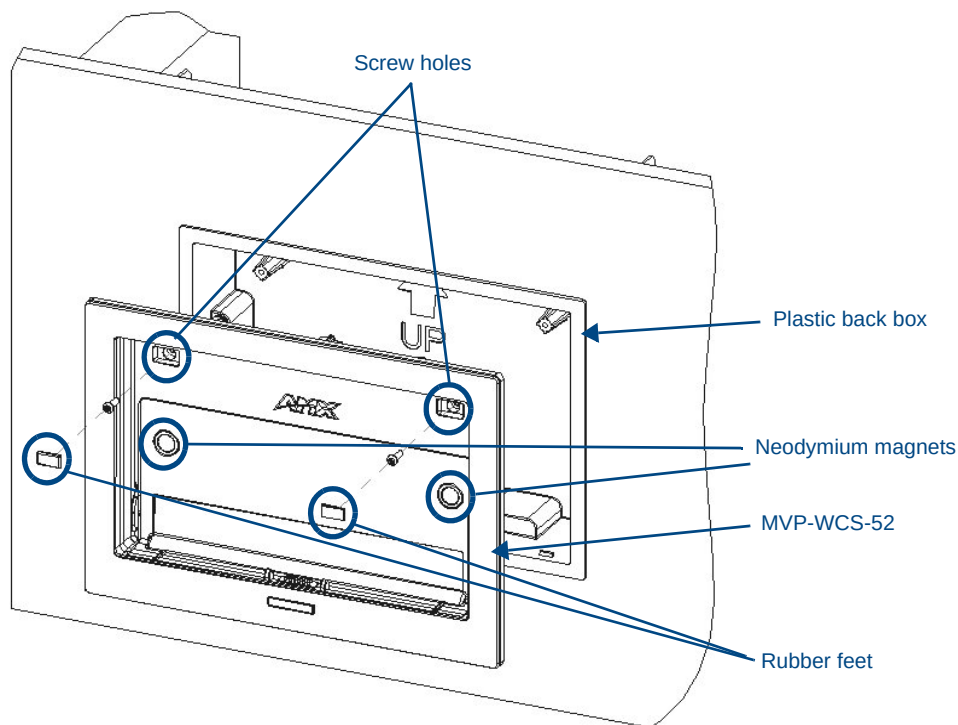

FIG. 9 Installation of MVP-WCS-52
10. Insert the two installation screws from the MVP-WCS-52 Installation Kit into the screw holes in the interior compartment of the device and tighten them to anchor the device to the box (FIG. 9).